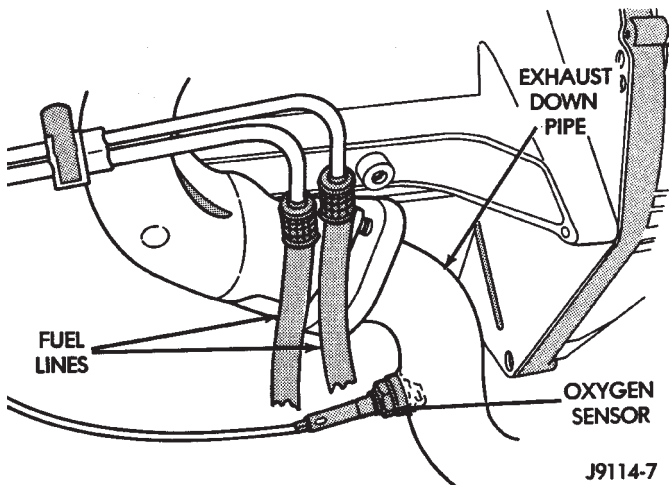

Fig. 26 Oxygen Sensor Location—Typical
(23) Verify that oxygen sensor wire connector is firmly connected to the sensor. Inspect sensor and connector for damage (Fig. 26).